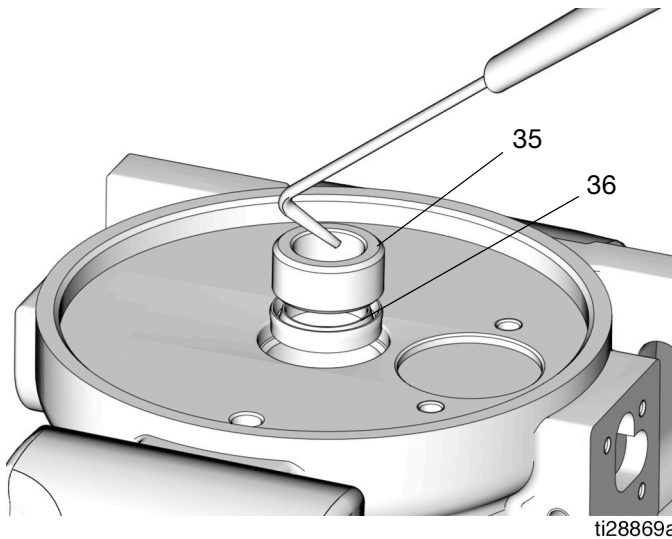

FIG. 25
25. Dispose of the piston seal (4), the o-ring (34a), and the nut (37) according to all regulations for proper disposal.
26. Use a pick to remove the bushing (35) and u-cup seal (36) (FIG. 25).